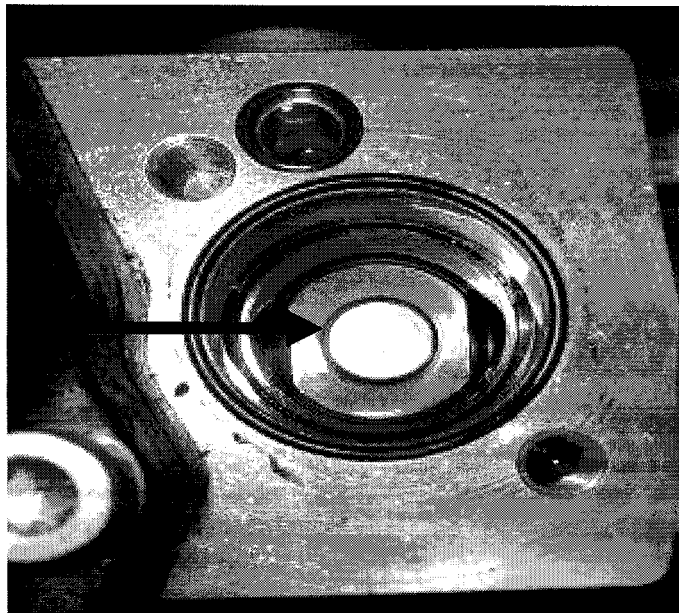

Figure 8 – High Pressure Fuel Pump Metal Puck Placement
13. Ensure that the metal puck is still in place and is centered in the roller cup. If the metal puck is not centered, use a clean pick to center the puck. See Figure 8.